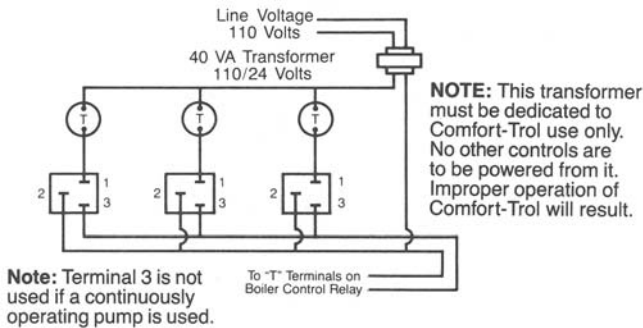

FIGURE 2A
6. Electrically wire the Comfort-Trol assembly to the system as described in one of the wiring diagrams (Figs. 2A and 2B) found on the following page.
1. Identify the power leads (#1, #2 and #3 as shown in Fig. 2A and disconnect them by pulling them off the blade type connectors.